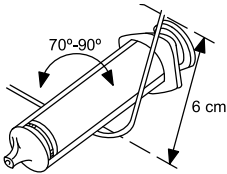

Figure 3. Curve the stylet
2. Select a stylet according to the function and to the preferred firmness. If desired, gently curve the stylet with any sterile, smooth-surfaced instrument (e.g., 10-cc or 12-cc syringe barrel) (Figure 3 Curve the stylet on page 17). A gentle curve is less likely to straighten than a sharp bend as the stylet is used.